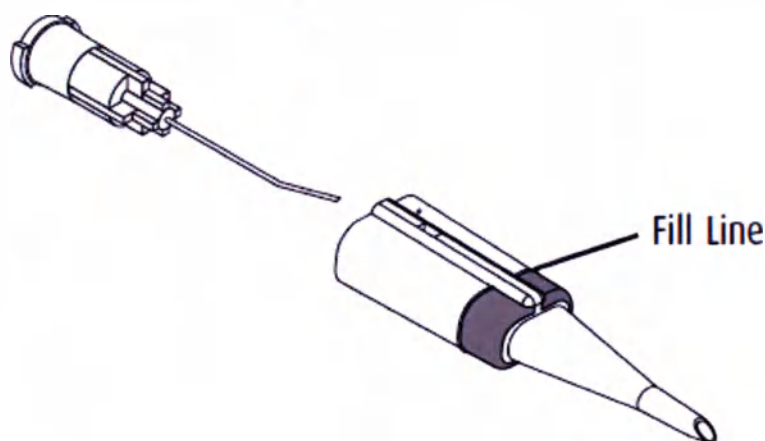

Fig. 5.
2. Fill the rectangular end of the transition cell with approximately 0.2 mL of a Bausch & Lomb viscoelastic, using the line as a guide (**Fig. 5**).